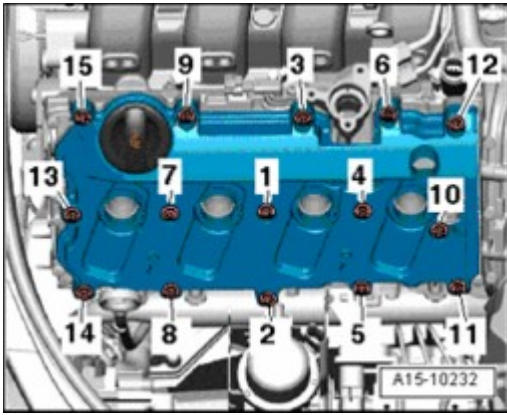

Fig. 281: Left Cylinder Head Cover Bolts Removal Sequence
- Note tightening sequence --> **Fig. 281**